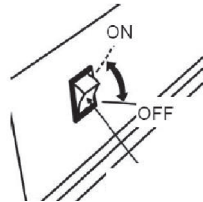

Fig. 11
6.2.3 Set the ignition switch to OFF position. (Fig. 11)